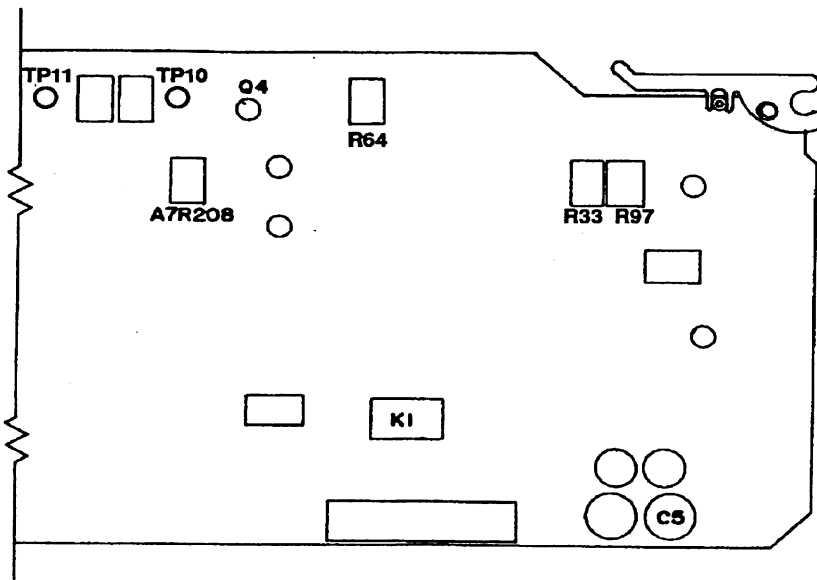

Figure 4. A7 phase lock loop circuit card adjustment location.
- (6) Set TI for 5 V p-p output at 9.8 kHz.
- (7) Connect **SYNC OUT** output to oscilloscope trigger input.
- (8) Connect audio analyzer monitor output (rear panel) to oscilloscope vertical input and set oscilloscope controls for display of peak distortion.
- (9) Adjust R33 (fig. 4) until waveform peaks are clearly visible in the residue.
- (10) Adjust R97 (fig. 4) until waveform peaks are symmetrical, above and below the average value of the residue signal.
- (11) Adjust R33 (fig. 4) until peaks disappear back into the residue.
- (12) Observe the overall ripple in the residue in the area of the waveform zero crossings as displayed on the oscilloscope. Adjust **CONTROL** knob cw for clearly visible peaks displayed on oscilloscope and repeat (11) above.
(13) Repeat technique of (11) and (12) above until minimum overall ripple is displayed on oscilloscope.
(14) Connect MULTIMETER + lead to TP 10 (fig. 4) and - lead to TP 11 (fig. 4) and adjust R64 (fig. 4) for display of <1 mV dc.